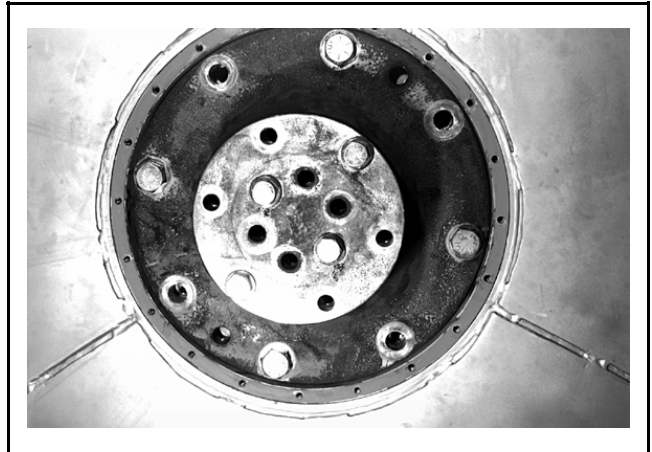

FIGURE 18 (MSSM0275AE)
4. Install the *shaft cap*. Use several equally spaced bolts to draw the hub onto the *cylinder flange* and *bearing shaft* as shown in FIGURE 18. Remove bolts after the hub is drawn up onto the *bearing shaft*.